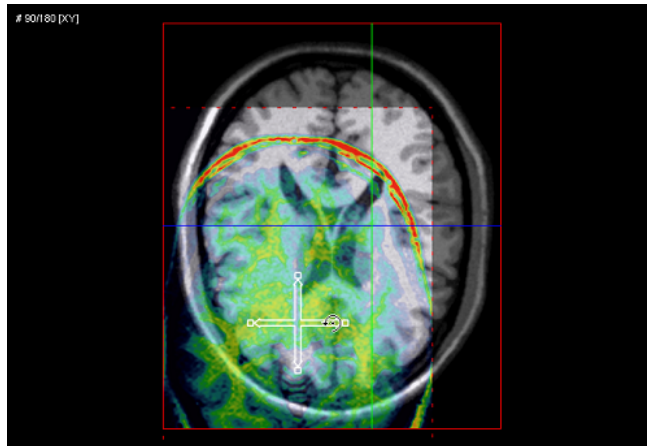

Figure 13.3: Rotate tool of the manual registration tool in the *Multiplanar Viewer*
- In the XY [Axial] viewer, move the mouse pointer over the outer third of the manipulator until the pointer turns into the rotate symbol (see Fig. 13.3).